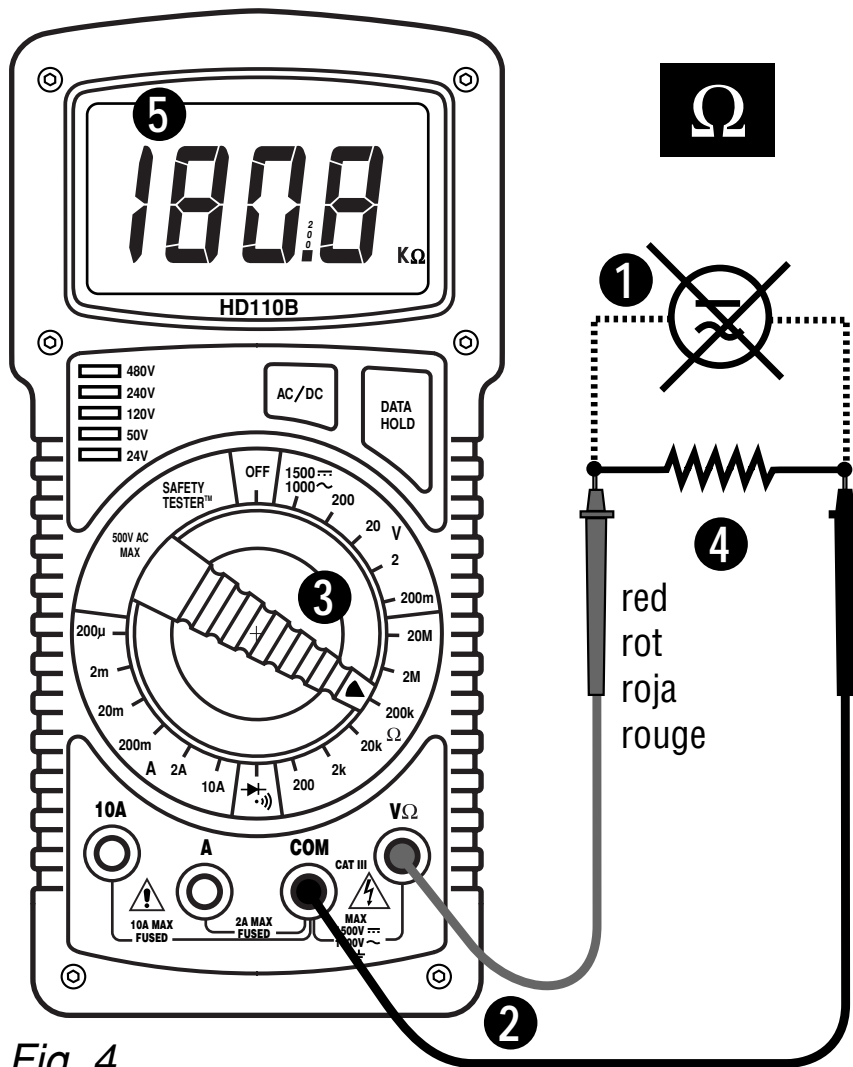

Fig. 4
RESISTANCE MEASUREMENT (See Fig. 4)
❶ Turn off any power to the resistance to be measured and discharge any capacitors. Any voltage present during a resistance measurement will cause inaccurate readings. ❷ Connect test leads to the meter as shown in figure 4. ❸ Set Function/Range Switch to the desired resistance range. ❹ Connect test leads to circuit being measured. ❺ Read resistance value on Digital Display. Open circuits will be displayed as “1”.
D • Widerstandsmessung (siehe Fig. 4)
E • Medidas de Resistencia (vea Fig.4)
F • Mesure de Résistance (voir fig. 4)